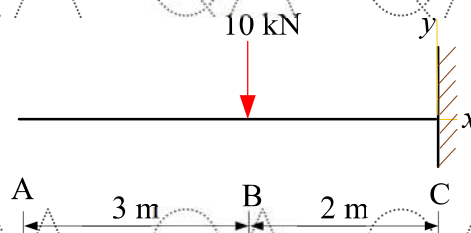

Figure.9
9. Determine the slope and deflection at point B for the cantilever beam shown in Figure.9 using conjugate beam method. Assume $E = 200 \text{ GPa}$ and $I = 60 \times 10^6 \text{ mm}^4$. [10]